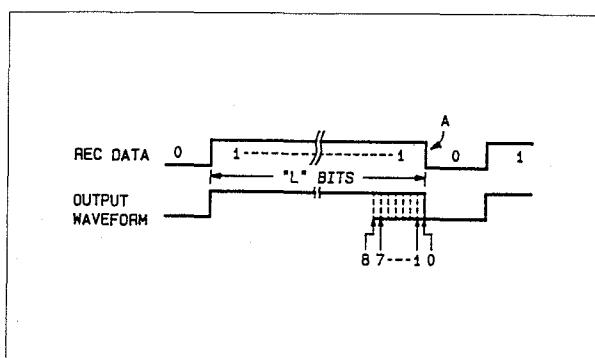

Fig. 3-1-5. Peak Shift Compensation by Phase Modulation (RF-15 Board)
Consequently, when performing digital recording at short wavelengths it is necessary to perform peak shift compensation. This is done by phase modulation in the DVR- 1000. In other words, as shown in Fig. 3-1-5., the continuous bit length "L" is detected and the inversion position (A) after the continuous bits is shifted to the front by external data input in advance. One shift step is about 0.5 nsec. As the continuous bit length "L" increases in size, the shift of the inversion position also increases.